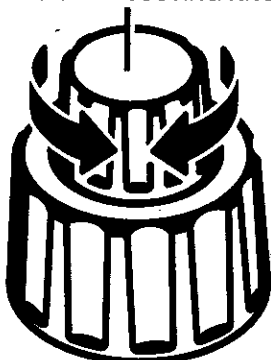

Fig. 16
- Turn the tension adjusting knob (upper, smaller knob) to the right or clockwise to increase tension or raise the upper wheel. Turn it to the left or counterclockwise to decrease tension on blade or to lower upper wheel. See Figure 16.